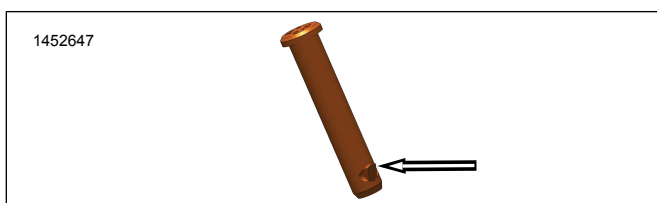

Figure 2. Clevis Pin Locking Tab
1. Remove rider footpeg clevis pin (A).
- a. Figure 2 Locate locking tab.